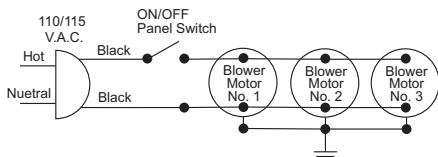

Figure 16 - BK3 Wiring Diagram
3. Using screws provided, fasten upper flange of blower bracket to hearth pan and end flanges to leg stands (see Figure 16, page 15).
11. Peel off backing paper and stick supplied wiring diagram decal on firebox bottom approximately 12" in from of blower (see Figure 16).